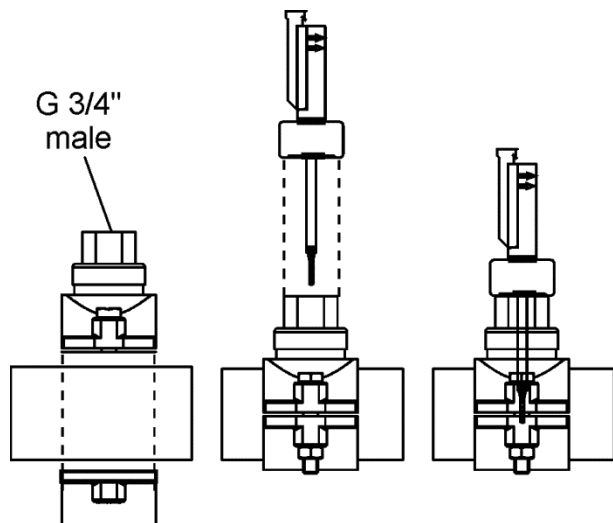

Fig. 4a
1. Vertically install the FS-1 flow detector (flow switch) supplied with the unit using a $\frac{3}{4}$ " male threaded saddle (Fig.4a).